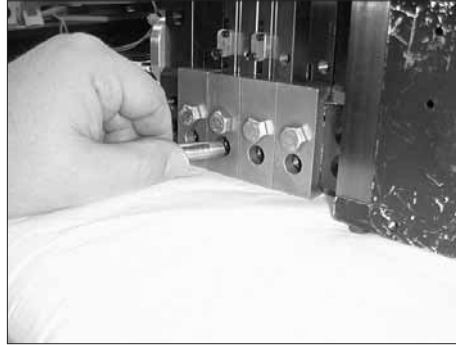

Figure 7-90 Installing a temperature sensor thermowell
4. See Figure 7-90. After first inserting them by hand, use a large screwdriver to install the temperature sensor thermowell(s). Install the air temperature sensor thermowell in the center-most slice to ensure an even heat profile.